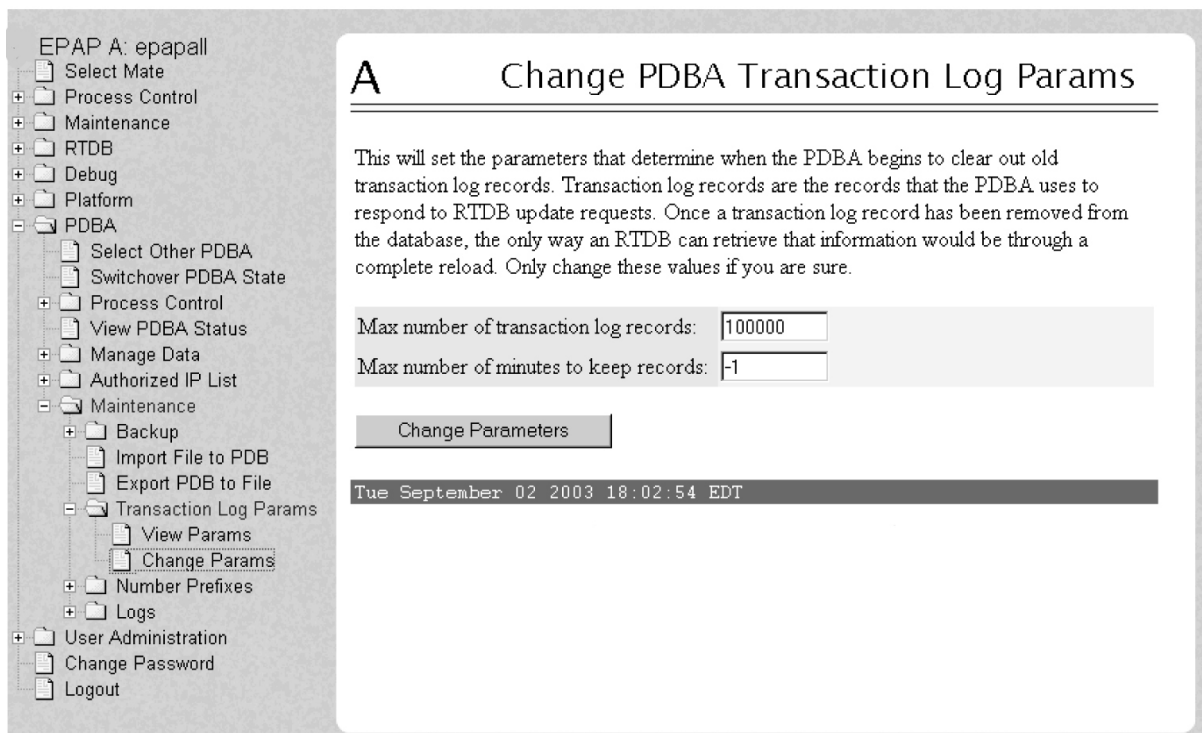

Figure 32: Changing Transaction Log Parameters
10. If you wish to increase the size of the transaction logs, select **PDBA> Maintenance > Transaction Log Params > Change Params** as shown in *Figure 32: Changing Transaction Log Parameters*.